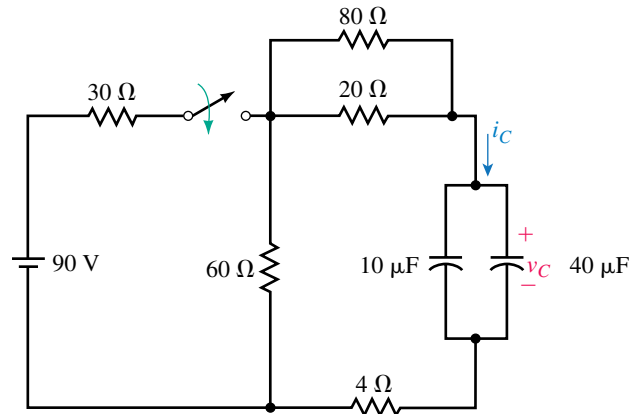

FIGURE 11–58
31. Repeat Problem 30, parts (a) to (c) for the circuit of Figure 11–58.
32. Consider again Figure 11–55. Suppose $E = 80\text{ V}$, $R_2 = 25\text{ k}\Omega$, and $C = 0.5\ \mu\text{F}$: